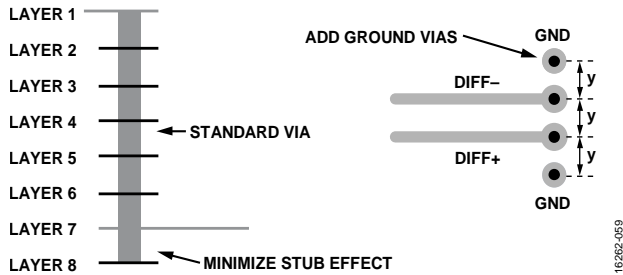

Figure 60. Minimizing Stub Effect and Adding Ground Vias for Differential Stripline Traces
- If using standard vias, use the maximum via length to minimize the stub size. For example, on an 8-layer board, use Layer 7 for the stripline pair (see Figure 60).
- For each via pair, place a pair of ground vias adjacent to them to minimize the impedance discontinuity (see Figure 60).